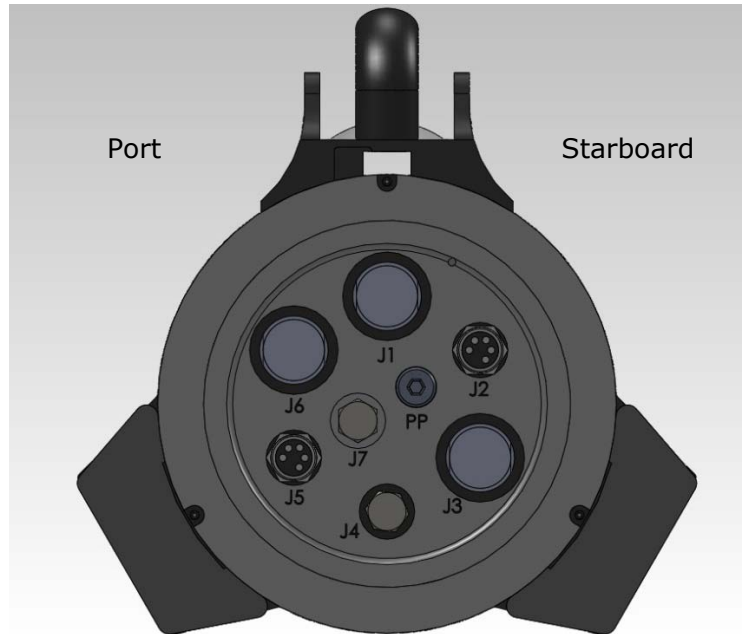
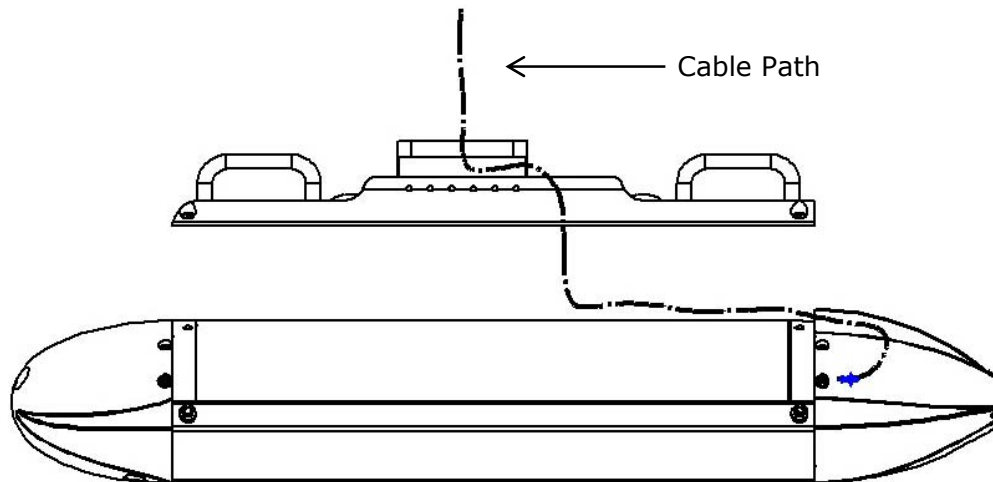

Figure 12: Sonar Processor Connections on End-Cap
Figure 14: Connecting the Deck Cable to End Cap
4. Connect the Port and Starboard Arrays to the Sonar Processor as in Figure 12; where J2 mates to the starboard array's transmitter via the Subconn 5 pin male connector (MCIL5M-P), J3 couples to the starboard array's receivers via the Seacon 19 pin female connector (MINK19-CCP), J5 connects to the port array's transmitter via the Subconn 5 pin male connector (MCIL5M-P), and lastly J6
6. Lift the Mounting Bracket and feed the tail end of the 20 m Deck Cable through the provided keyway (Figure 14). The tail end of the Deck Cable has the Seaconn 19 pin female connector (MINK19-CCP).
7. Ensure the Deck Cable stays within the slotted region of the keyway on the Mounting Bracket and pull the cable towards the tail section (Figure 14).
8. Connect the Deck Cable to the Sonar Processor using the Seacon 16 pin female connector (MINK16-CCP) to J1, as indicated in Figure 12 and Figure 14.